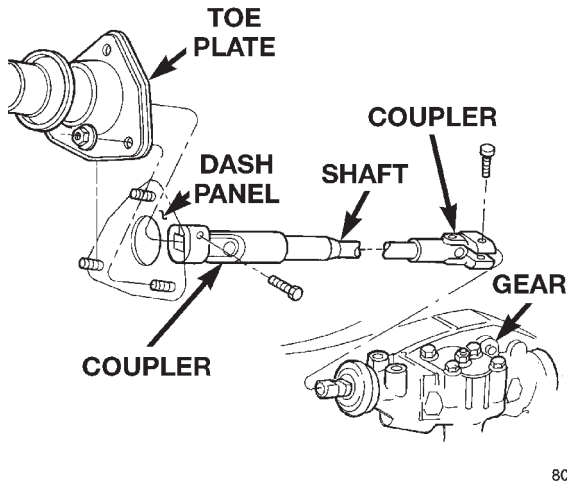

Fig. 5 Column Coupler Shaft
- (1) Position front wheels straight ahead.
- (2) Disconnect the negative (ground) cable from the battery.
- (3) Remove airbag, steering wheel and clockspring. Refer to Group 8M Passive Restraint Systems for service procedures.
- (4) Remove column coupler upper pinch bolt (Fig. 5).